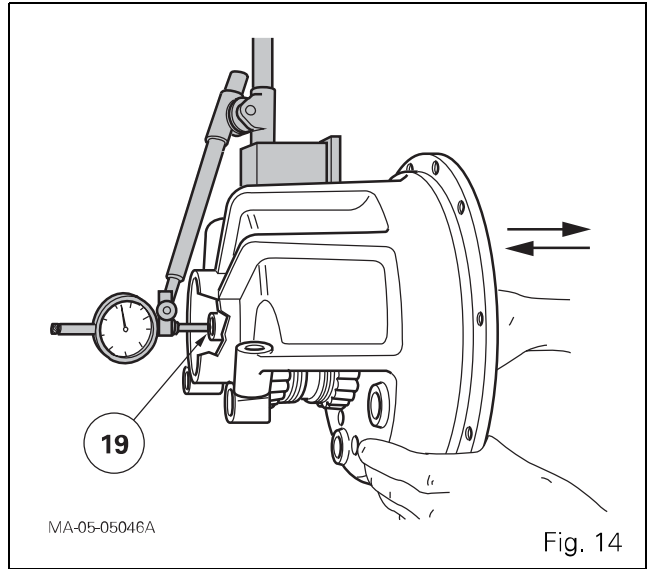
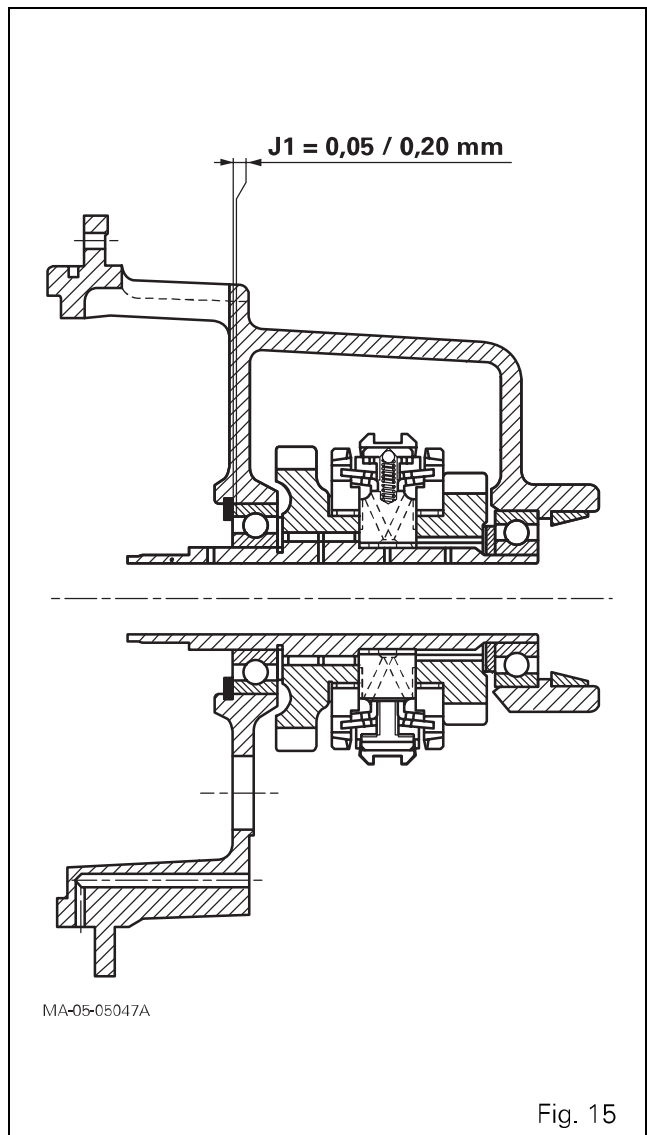

Fig. 14
Fig. 15
39. Position the dial gauge feeler pin on the end of the shaft (19) (Fig. 14).
40. Pull hard on the secondary shaft (19) to correctly position the ball bearing (24) against the circlip (25).
42. Repeat step 40 while pushing to bring the ball bearing (9) up against the shoulder of the housing (26).
43. Depending on the clearance measured, select a new thickness of shim(s) (1) to obtain a clearance of $J1 = 0.05$ to 0.20 mm (Fig. 15).